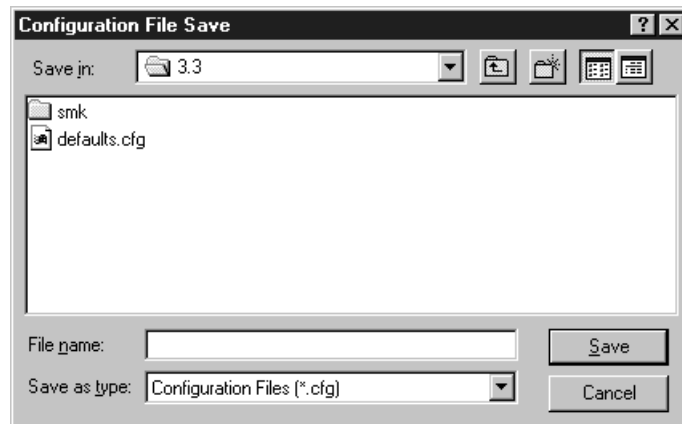

Figure 6-26. Configuration Save Window
1. Select **File>Save Config**. The Configuration Save window opens, as shown in Figure 6-26.